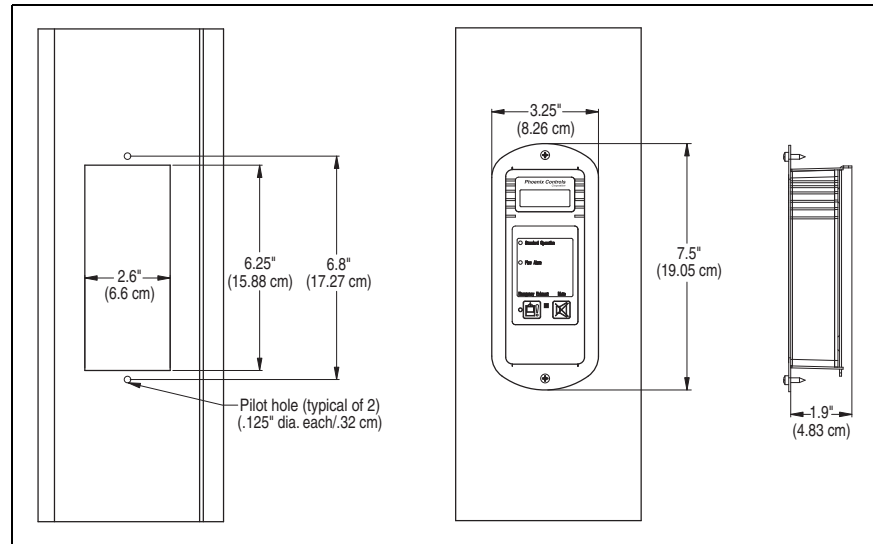

Figure 4. Fume Hood Monitor mounting template (recess mount).
1. Use the recess mounting template to mark the area for cutout and mounting holes for attaching the fume hood monitor to the fume hood (see Figure 4).